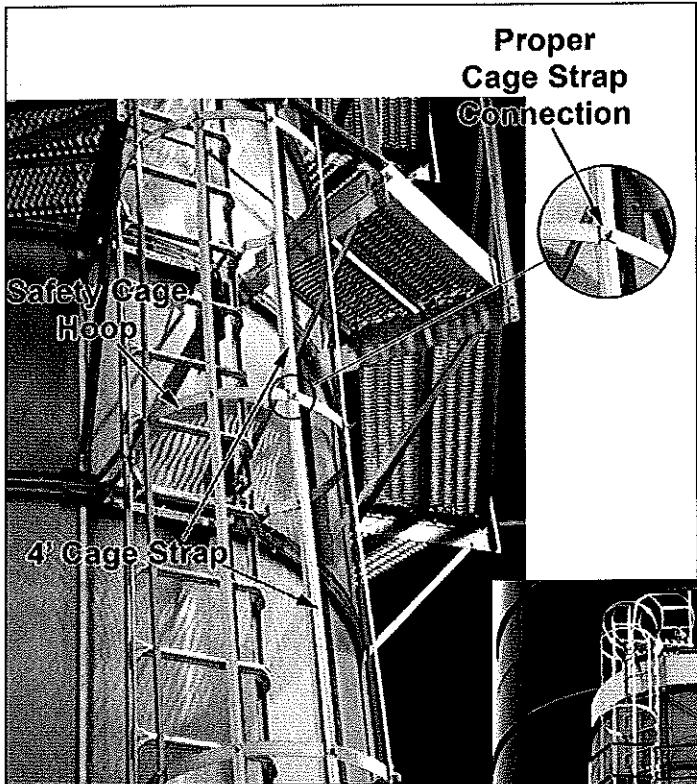

Figure 24
- Starting with the top of the 6 ft. ladder, bolt (1) safety cage hoop to the ladder every 4 feet. The distance between the last safety cage hoop and the bottom safety cage hoop will be 5 feet.
- The upper holes of the top 4 ft. straps are bolted to the cage hoop of the ladder cage directly above, sharing the 5/15-18 x 1" bolts and locknuts. See Figure 24.
- The bottom holes of the top (4) 4 ft. straps that complete the cage share the same bolts that are used for the upper holes of the (4) straps used in the lower 4 ft. ladder cage. See Figure 24.